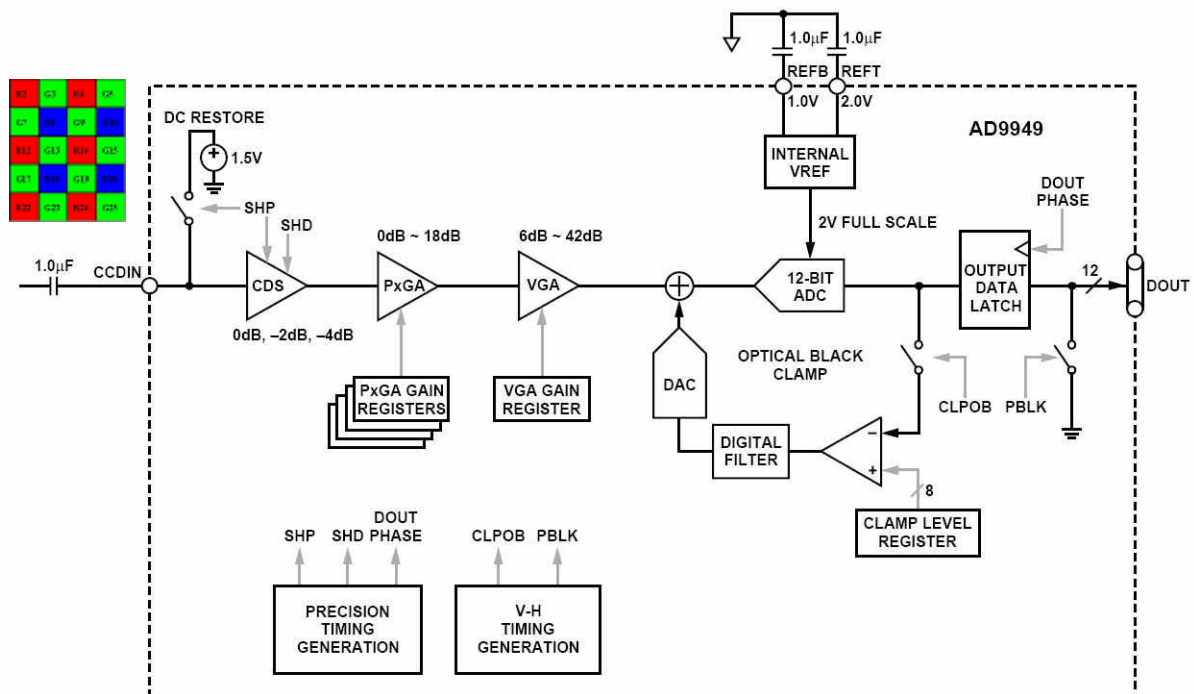

Figure 28: Block diagram of AFE (Source: Analog Devices)
- Figure 28: Block diagram of AFE \(Source: Analog Devices\) on page 83